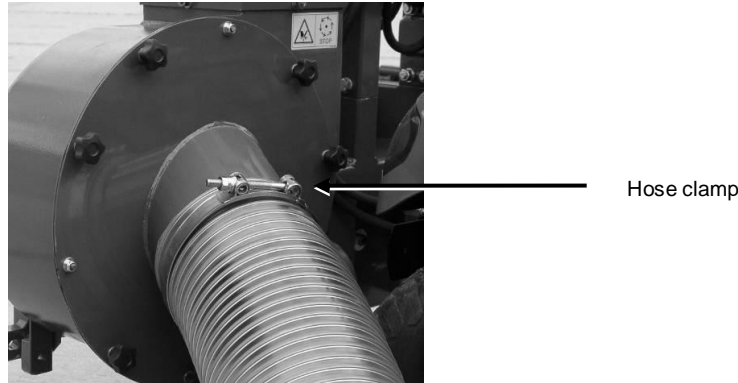

Fig. 41: Suction hose on the turbine cover
6. Disconnect the suction hose from the connector on the CS by loosening the hose clamp (see Fig. 41).